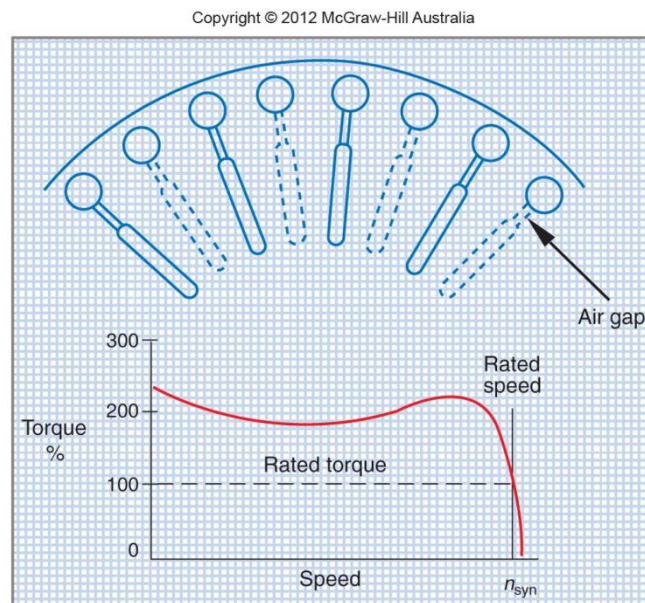

Figure 4 – Double squirrel cage rotor. Used in applications requiring high starting torque
32. A three phase double squirrel cage induction motor rotor has two squirrel cage windings instead of one. One winding is embedded deep in the rotor core and the other is closer to the surface of the rotor core; both windings are connected to the same end rings. The second rotor winding is not usually visible so it is not usually possible to distinguish a single cage rotor from a double cage rotor without reference to manufacturer's data. Figure 4 shows how double cage rotor bars can be arranged in a rotor.